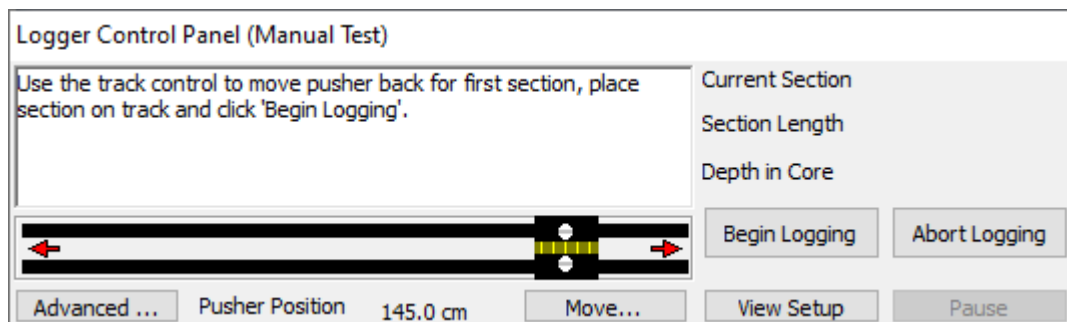

Figure 4.11: Logger Control Panel in MSCL-S software
- Using the scroll bar in the Logger Control Panel move the pusher to a position on track which is just greater than the length of the first section to be logged (either section 1 or a calibration section, (Figure 4.11).